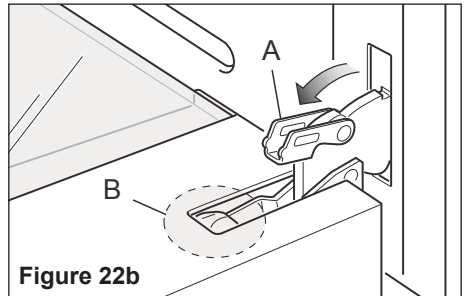

Figure 22b
- Open the lever “A” completely on the left and right hinges (fig. 22b).
- Gently close the door until left and right hinge levers “A” are hooked to part “B” of the door (figs. 22b, 22c).
- Open the lever "A" completely on the left and right hinges (fig. 22b).
- Gently close the door until left and right hinge levers "A" are hooked to part "B" of the door (figs. 22b, 22c).